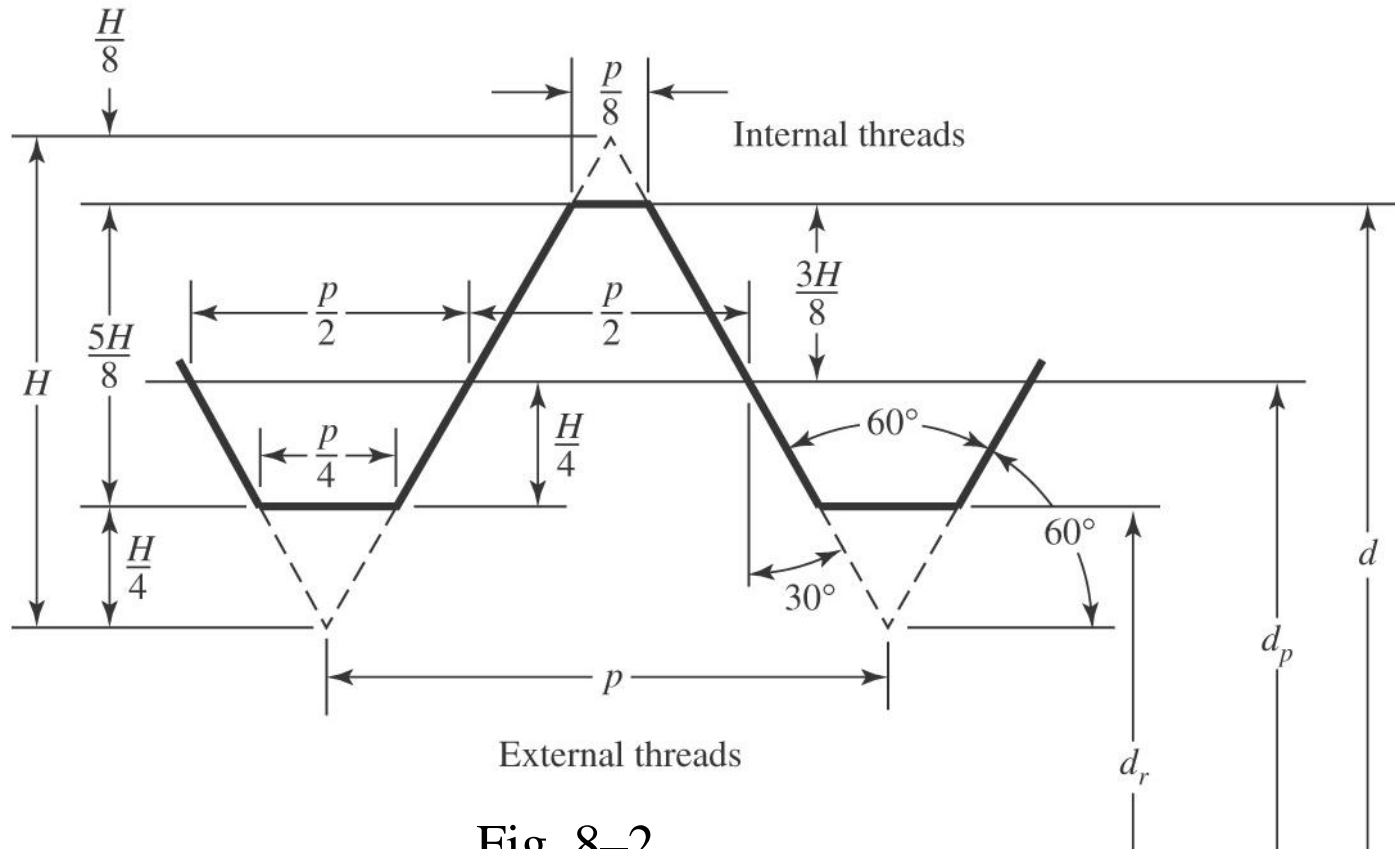

Fig. 8–2
- Basic profile for metric M and MJ threads shown in Fig. 8–2